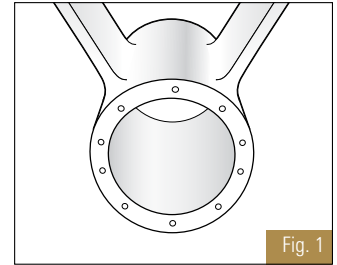

Fig. 1
2. **Check if housing is clean.** (Fig. 1)